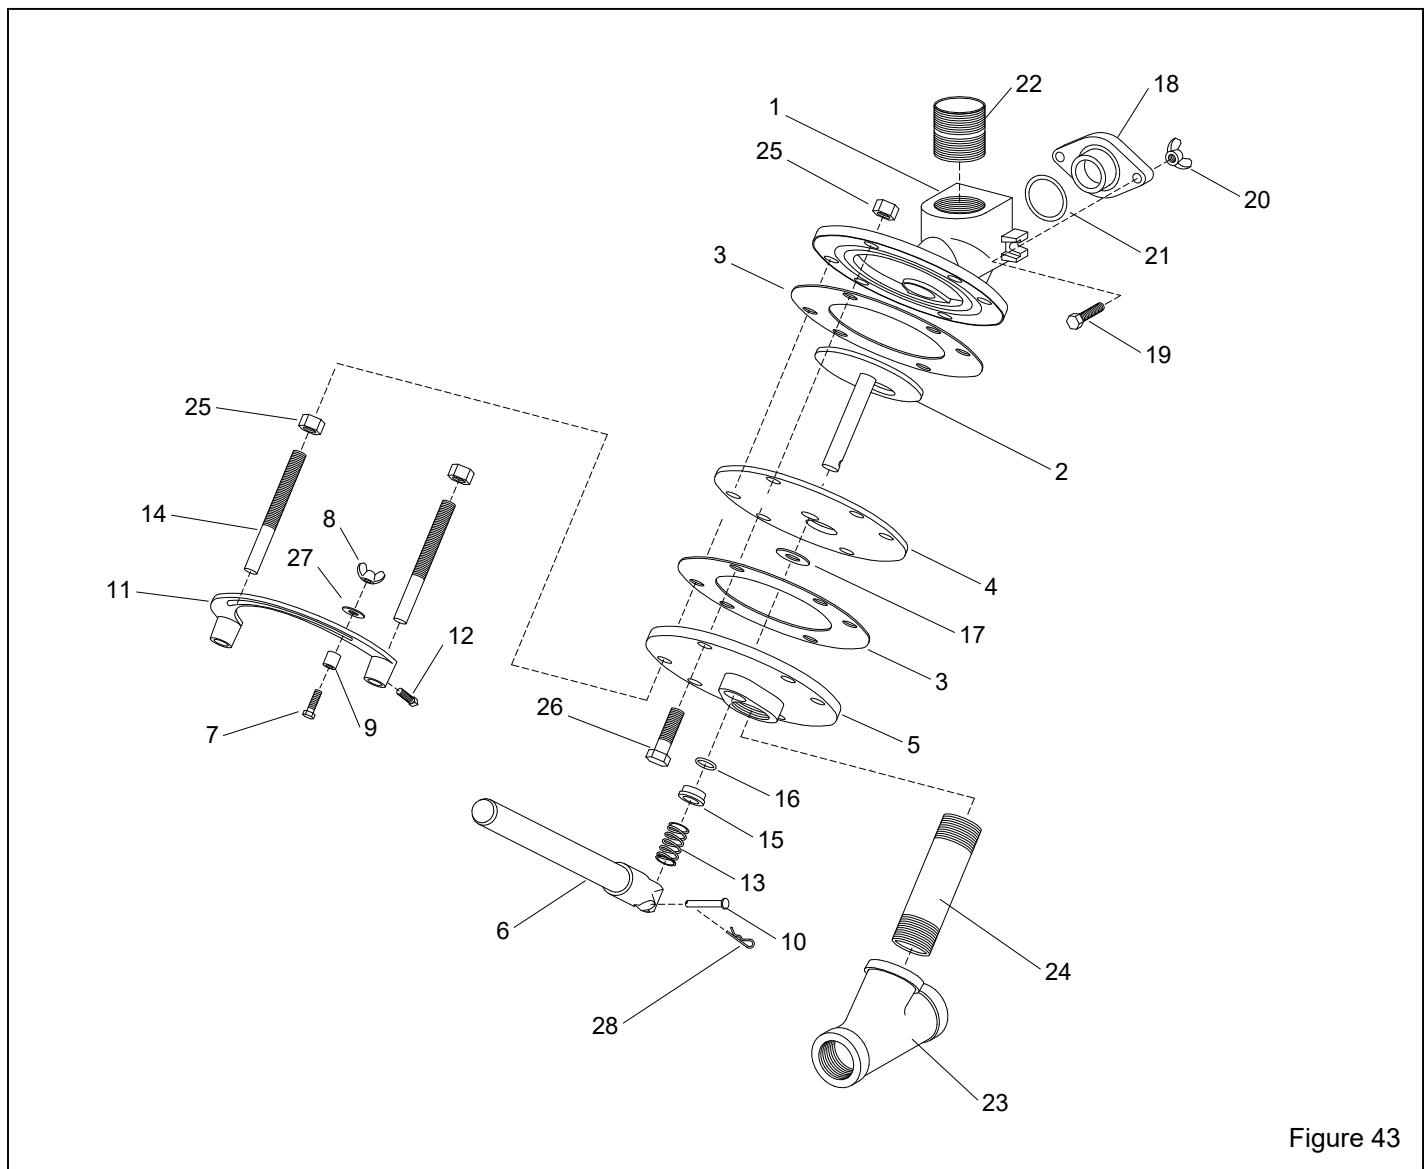

Figure 43
9.8 FSV Media Metering Valve – Figure 43